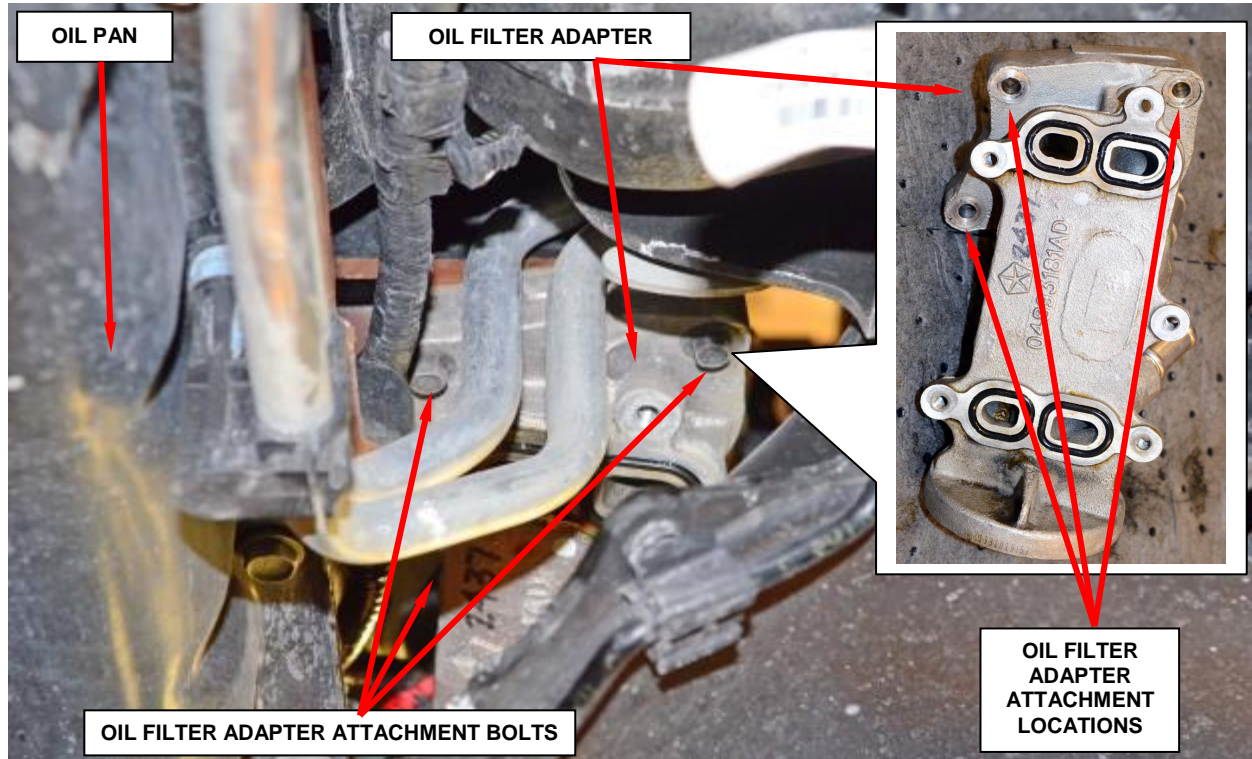

Figure 4 – Oil Filter Adapter
10. Using **special tool TMUSM8A**, remove and save the three oil filter adapter attachment bolts (Figure 4).
15. Using **special tool TMUSM8A**, tighten the oil filter adapter bolts to 9 ft. lbs. (12 N·m) (Figure 4).